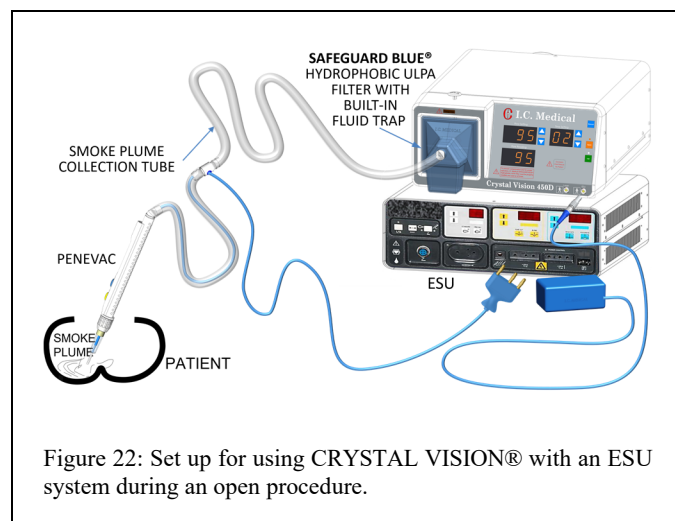

Figure 22: Set up for using CRYSTAL VISION® with an ESU system during an open procedure.
3. Refer to Figure 22 or 23 for set-up.